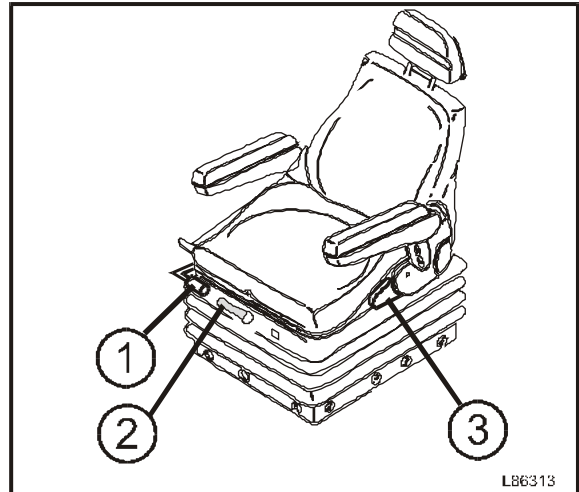

Fig. 13-Driver's seat
- The seat meets international quality and safety standards in compliance with ISO 7096 and ISO 6683 (Fig. 13).